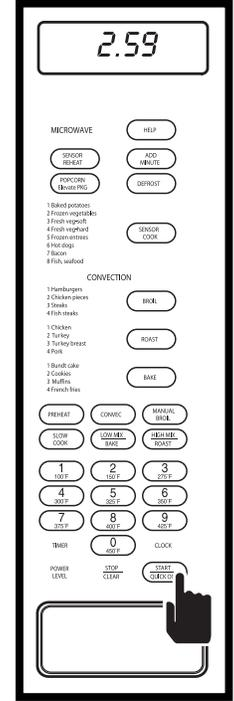

Figure 3-27. To Start, Press QUICK ON/START Key
4. After amount of time is entered, press QUICK ON/START key to begin timer countdown (See Figure 3-27). At the end of the countdown, display will flash "END " and alarm will beep. Push the STOP/CLEAR key to return to normal operation.